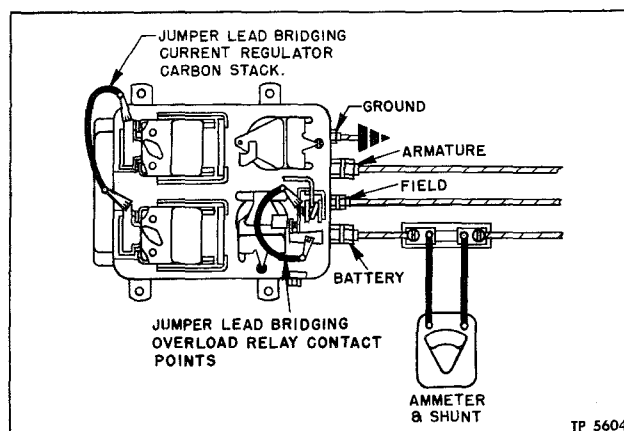

Figure 28—Ammeter and Jumper Lead Connections for Checking Overload Relay Reverse Current
1. Connect temporary jumper lead across overload relay contact points to prevent opening of circuit breaker relay during test (fig. 28).
2. Shunt out carbon stack of current regulator unit with temporary jumper lead to prevent current regulator action on reverse current (fig. 28).
3. Connect suitable test ammeter in series between battery and "BATTERY" terminal of regulator (fig. 28).